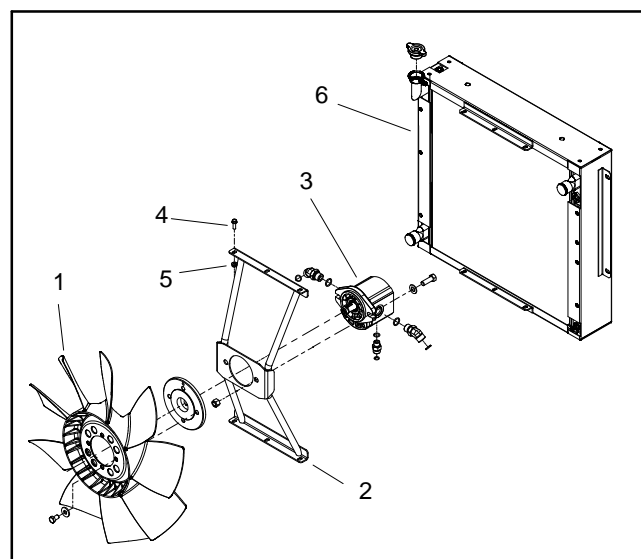

Figure 7
5. Remove air cleaner hose (item 6).
6. Remove four (4) flange head screws and flange nuts that secure plenum (item 7) to radiator mount. Remove plenum.
7. Disconnect reservoir hose (item 39) from the radiator vent tube.
10. Remove six (6) cap screws and flange nuts that secure fan motor bracket to radiator (Fig. 7).
12. Remove four (4) flange head screws and flange nuts securing the radiator and recirculation barriers (items 24 and 25) to the radiator mount. Carefully remove barriers and radiator from the machine.
2. Carefully position radiator and recirculation barriers (items 24 and 25) to the radiator mount. Secure radiator and barriers in place with four (4) flange head screws and flange nuts.
4. Secure fan motor bracket to radiator with six (6) cap screws and flange nuts (Fig. 7).
7. Connect reservoir hose (item 39) to the radiator vent tube.
9. Install plenum (item 7) to radiator mount and secure with flange head screws and flange nuts.
10. Install air cleaner hose (item 6) to the air cleaner and plenum.